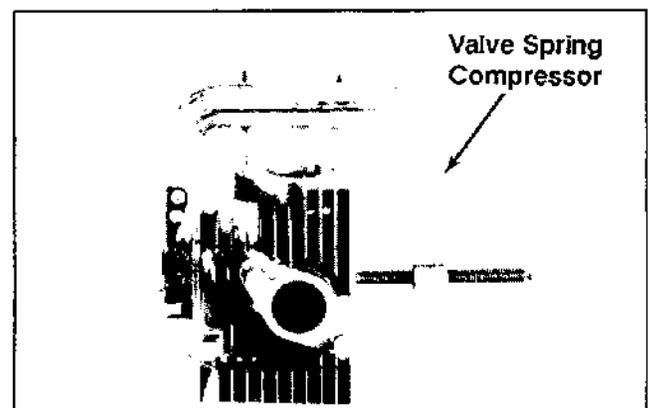

Figure 9-26. Removing Valves With Valve Spring Compressor.
- a. Compress the valve springs using a valve spring compressor. See Figure 9-26.